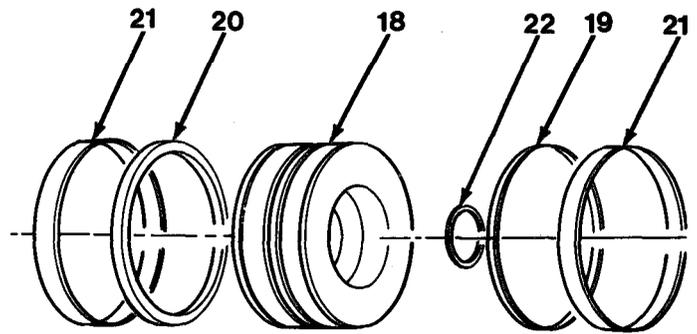
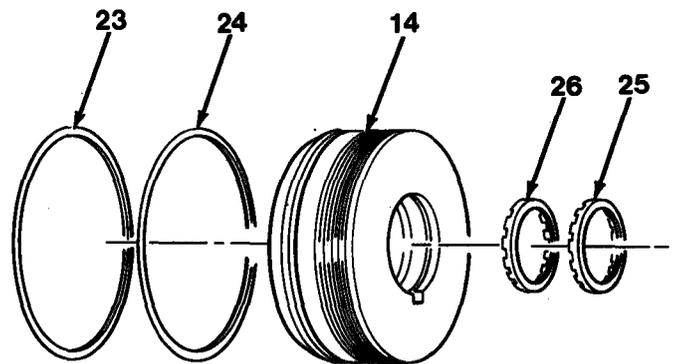

Figure 13-7
Figure 13-8
5. Remove and discard piston seal (19) and square expander ring (20, Figure 13-7).
6. Remove two wear rings (21) from outside diameter of piston (18).
7. Remove O-ring (22) from inside diameter of piston (18).
8. Remove O-ring (23) and back-up ring (24) from outside diameter of gland (14, Figure 13-8).
9. Remove rod wiper (25) and rod seal (26) from inside of gland (14).